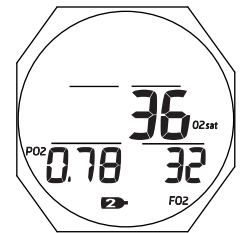

Fig. 70 - NO DECO ALT 2
**No Deco Alt 2** (only if Nitrox), information includes (Fig. 70):